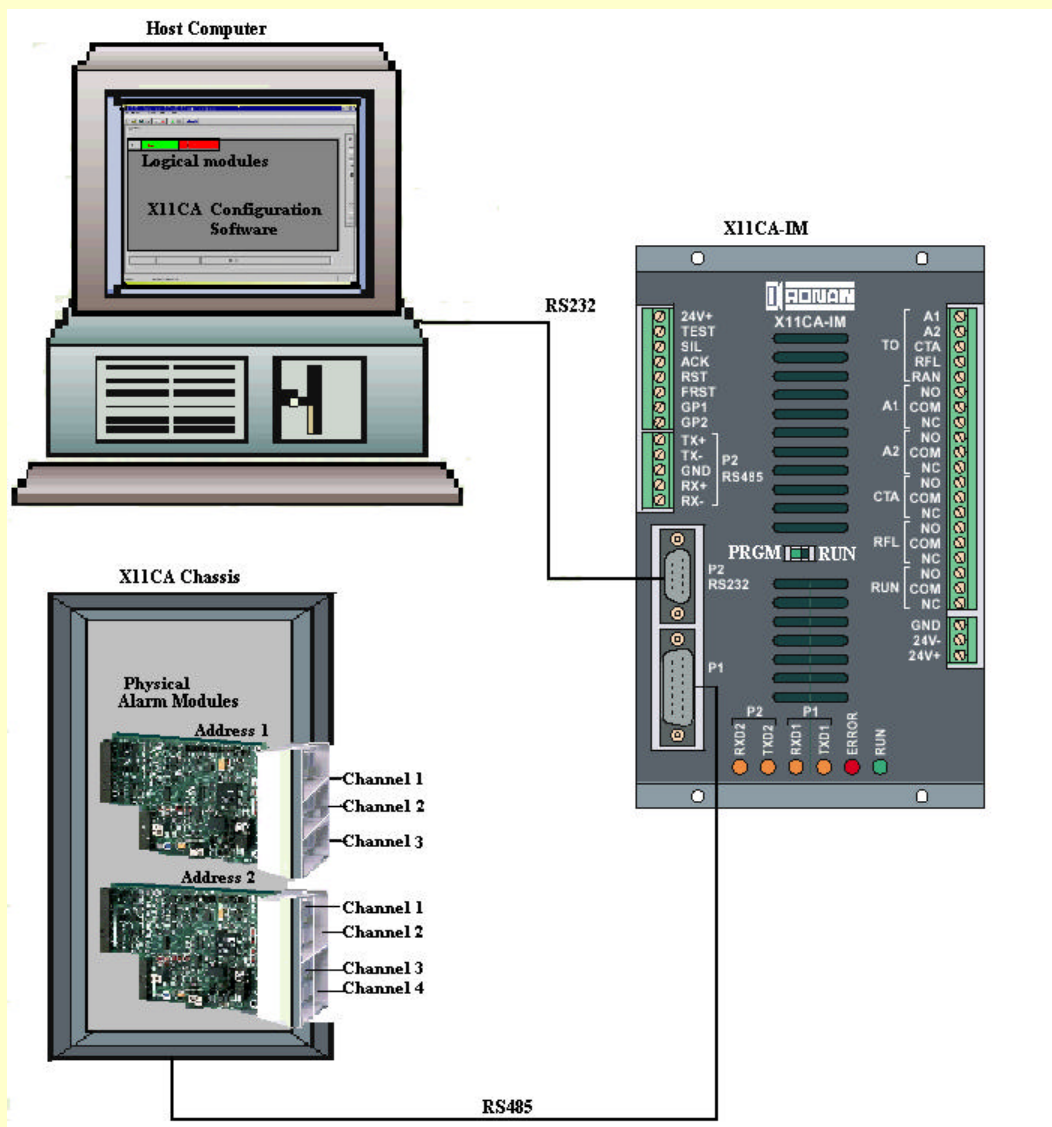

Figure 4-1 System Setup
**Example: Figure 4-1 (Module1:3 channels, Module2:4 channels)**
Figure 4-1 shows a X11CA system with two physical modules. Each physical module has a unique address. The first module has three channels and the second module has four channels.
**Example:** This example will continue throughout this document. When you see an example that starts with **Example:** icon, you will know that it is the continuation of the example with the same system set up as Fig 4-1.